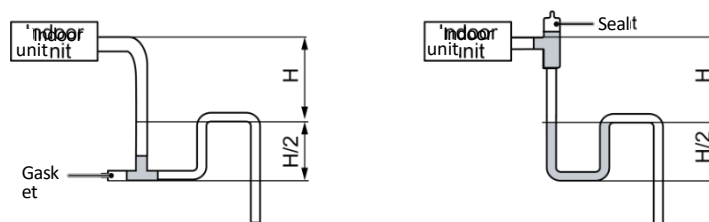

Fig. 4.3.5
- 5 Install the trap as shown in Fig. 4.3.5 below.